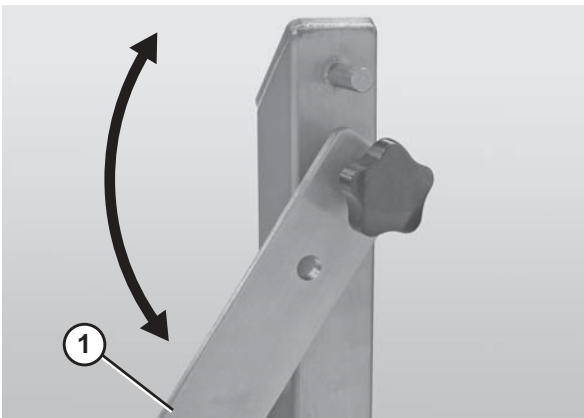

Figure 46
2. Lower the quick release arm (**Figure 46, item 1**) on one of the stands. *Note: if the conveyor is not equipped with Quick Release (QR Type) stands, it will be necessary to remove the entire stand.* For detailed instructions, refer to the “Sanitary Support Stands Installation, Maintenance and Parts Manual.”